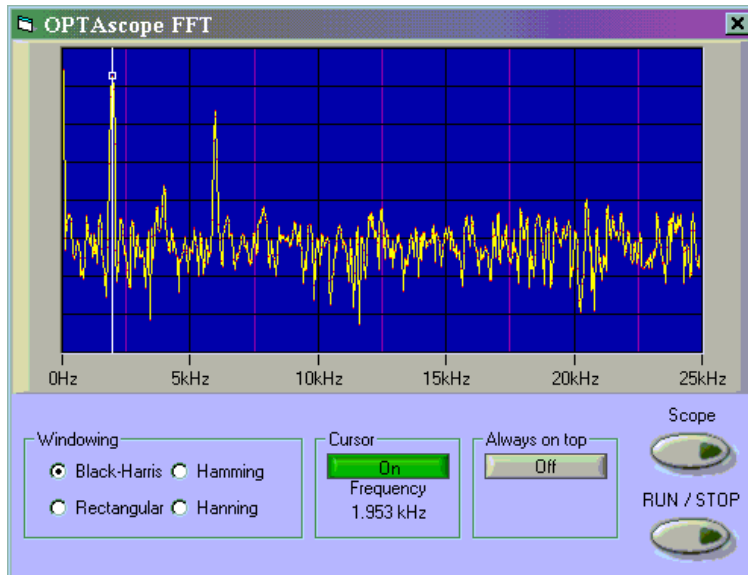

Figure 3-11:
- √ Press the FFT button, and the FFT Window will open (Figure 3-11).